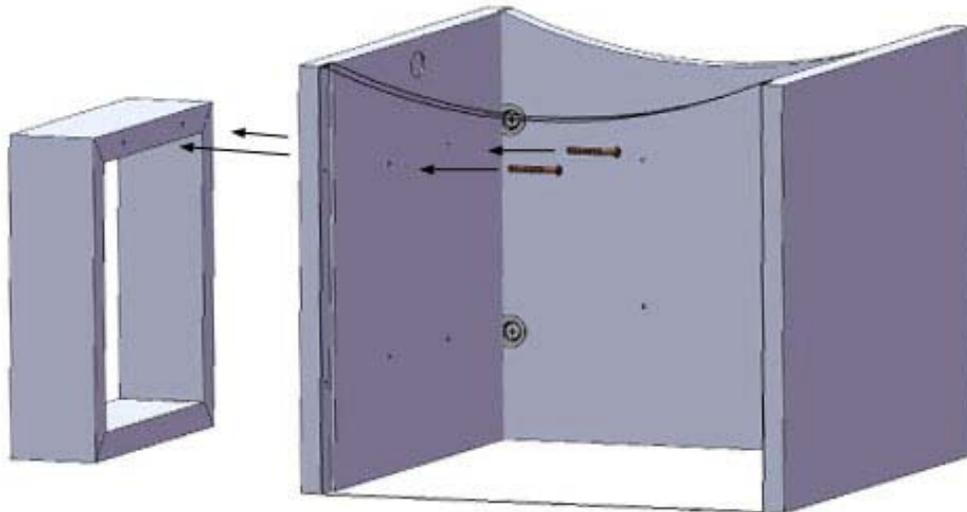

Figure 1
1. Lay the wave cube on its open back on a clean surface. Screw the #8 square head screws through the pre-drilled holes until the tip of the screw breaks through the surface (**Figure 1**).
2. Line the #8 square head screws up with the pre-drilled holes in the pedestal and continue drilling until the pedestal is attached and screws are flush with cube panel surface (**Figure 1**).